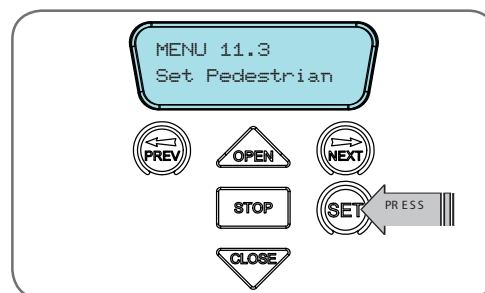

fig 46
4. Press SET two times to enter Set Pedestrian procedure (Fig. 46).